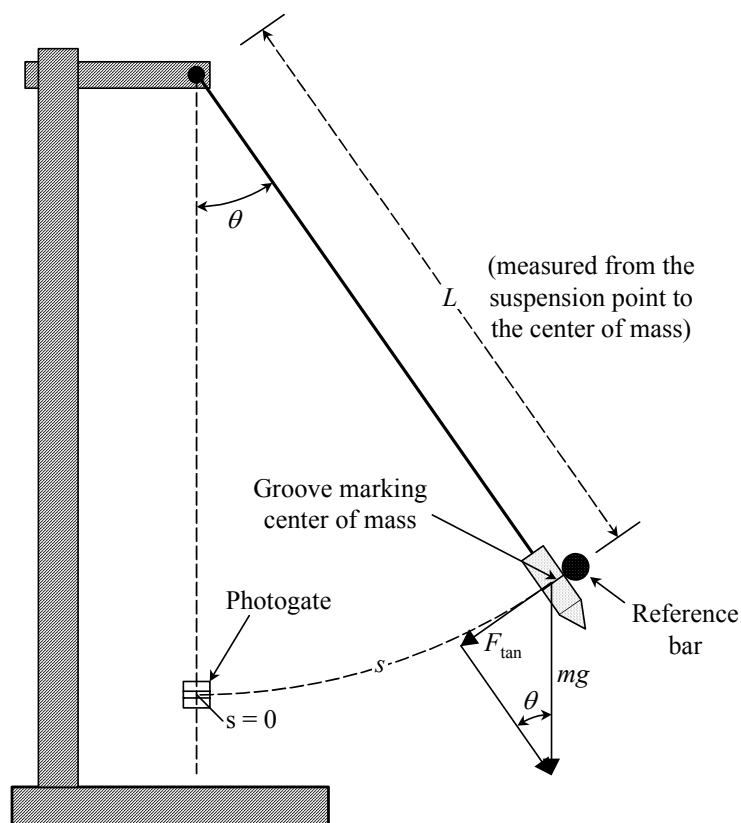

Fig. 1. Simple pendulum, schematic.
A simple pendulum consists of a mass m suspended from a fixed point by a string of length L . If the mass is pulled aside and released, it will move along the arc of a circle, as shown in Fig 1. Let s be the distance from the equilibrium position measured along that arc. While the force of gravity, mg , points downward, only its tangential component along the arc, $F_{\text{tan}} = -mg \sin(\theta)$, acts to accelerate the mass. The minus sign indicates that F_{tan} is a **restoring force**, i.e. one that points in a direction opposite to that of the displacement s . From Newton's second law, $F_{\text{tan}} = ma$, we then get:
1. You want to use the brass bob and measure the period T for several initial angles θ as shown in Fig 1. Make sure that you have aligned the protractor properly with the bob in its equilibrium position.